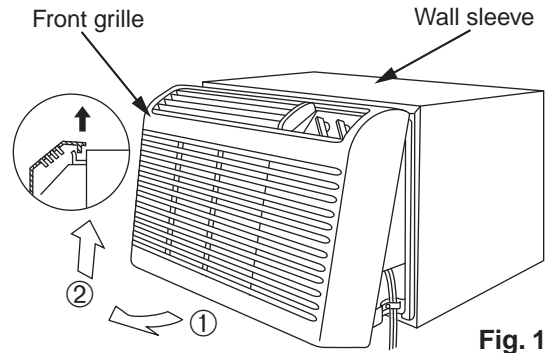

Fig. 1
- 1) Pull the bottom part of the front grille toward you. (Fig. 1-①)
- 2) Lift up and unhook the grille to remove it. (Fig. 1-②)